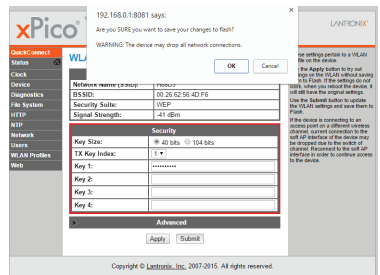

Figure 19: Complete Connection
- Click on the OK button in the dialog box. Ignore the displayed warning during the final process. **Note:** The device in the warning is XPicoWiFi. See Figure 19.